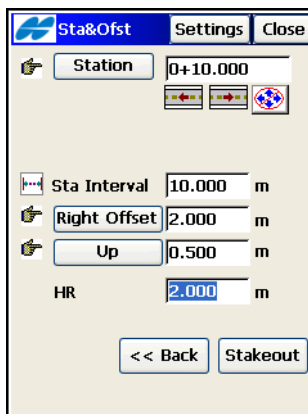

Figure 13-20. Stakeout
- **Next** – opens the *Sta&Ofst* screen (Figure 13-20 on page 13-19) (see “Station & Offsets” on page 13-19).
The *Sta&Ofst* screen (Figure 13-20) contains the settings for the stakeout stations with offsets from the line.